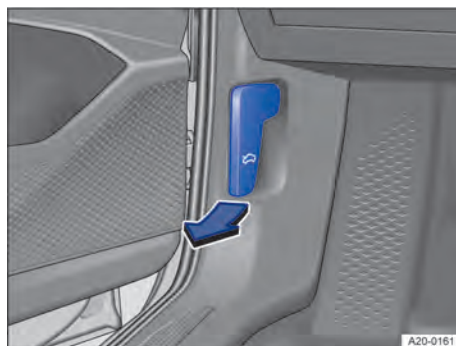

Fig. 203 In the footwell on the left side: bonnet release lever (illustration).
1. Ensure that the wiper arms are positioned on the windscreen before opening the bonnet → ①.
2. Open the front left door and pull the release lever in the direction of the arrow → Fig. 203.